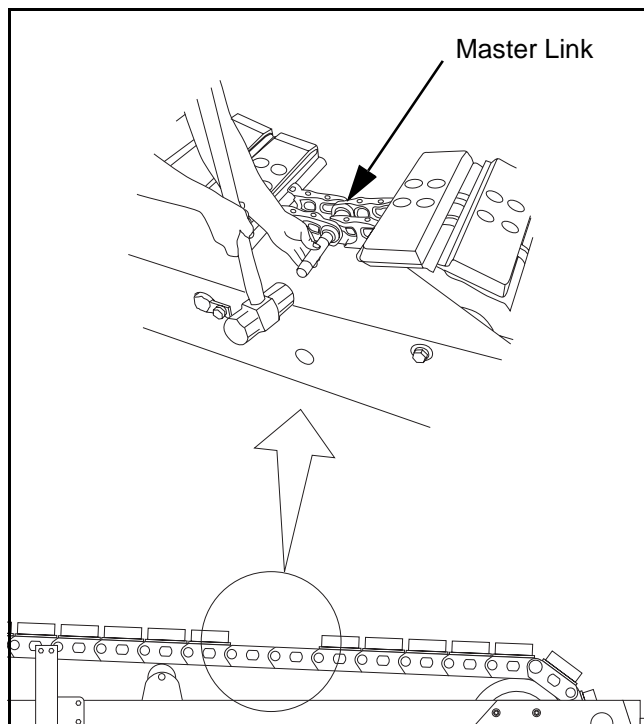

Figure 6 - 59 Connecting Master Link
- 10) Once the master link is connected, apply Loctite to bolts and install track pads. (Figure 6 - 60)